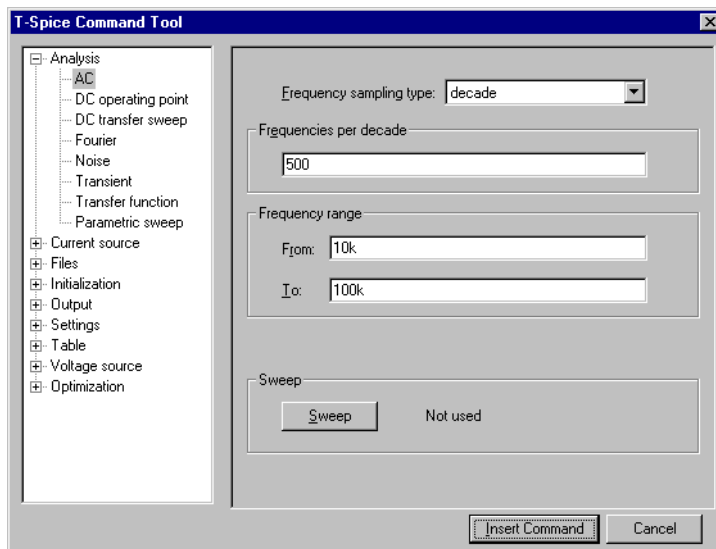

Figure 90: Customizing the AC analysis
- ☑ Choose **decade** for **Frequency sampling type**, set **Frequencies per decade** to **500**, **Frequency range From** to **10k** and **Frequency Range To** to **100k** (Figure 90).